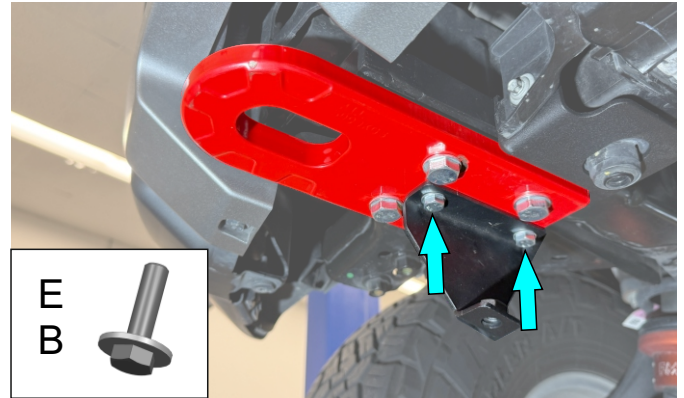

Fig. 7
7. **For Ranger Raptor only.** Secure skid plate brackets (items 5 ,6) to recovery points using M8x20 bolts and M8 washers (items B,E) on both sides of the vehicle as shown in Fig. 7.